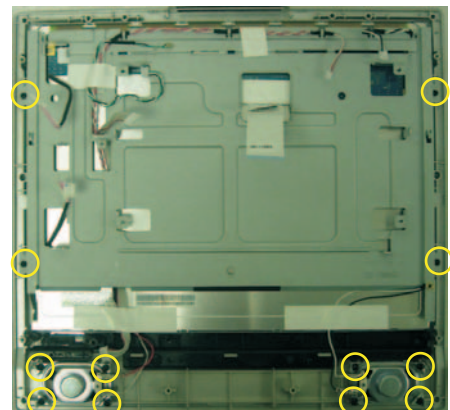
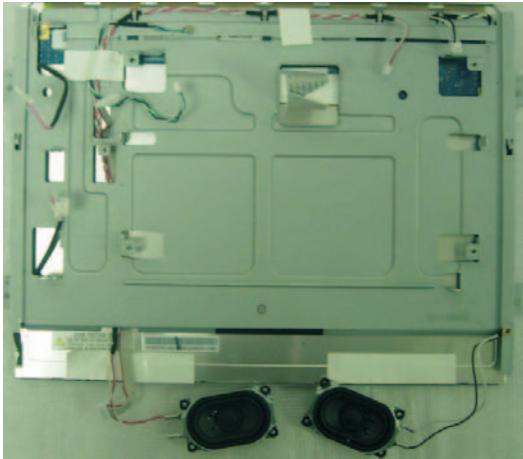

Fig.7
Fig.8
Step 4. Remove the speakers and the Bezel assy as Fig.7~Fig.8
a. Remove the 8 screws as Fig.7.